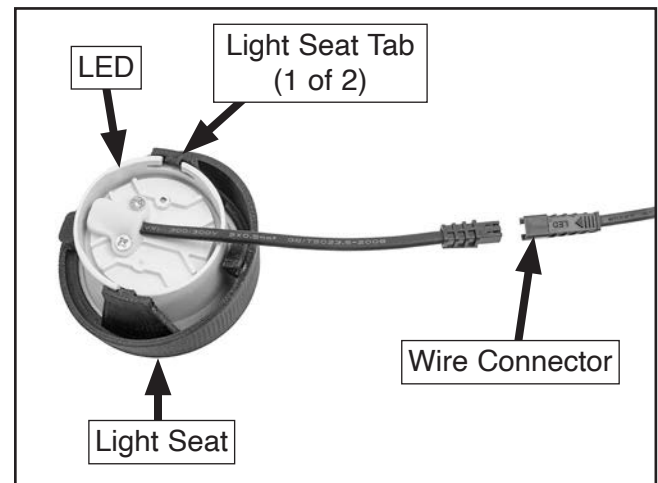

Figure 65. LED disconnect components.
3. Move light seat tabs away from LED to remove LED from light seat (see **Figure 65**).
4. Disconnect LED from wire connector shown in **Figure 65** and replace with new LED.